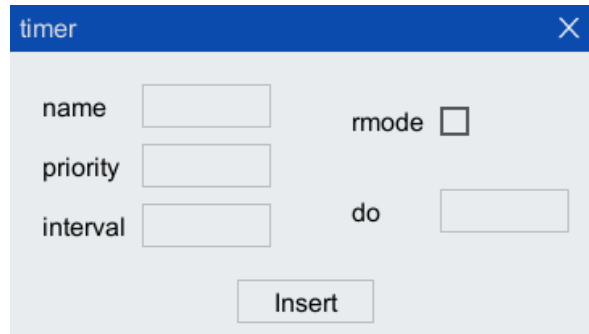

Figure 5-49 "Timer" instruction configuration interface
Step1.Click "Insert Cmd> Interrupt Trigger> timer" option in the toolbar of the program editor to pop up "timer" instruction interface, as shown in Figure 5-49.